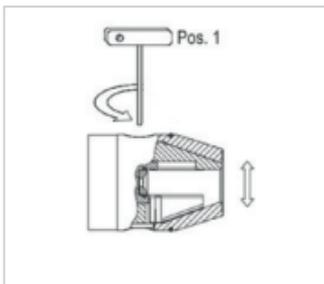

Figure 9: Maximum clamping range
- With the aid of the hex-wrench supplied, turn the pinion to the largest possible clamping range by turning it counter-clockwise (see "Figure 9: Maximum clamping range").